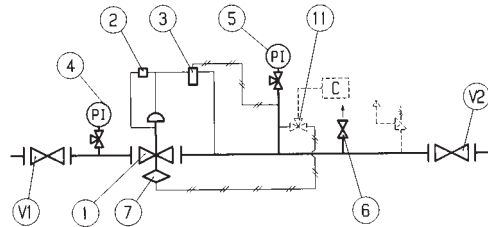

Fig. 22
5.4 MESSA IN SERVIZIO REGOLATORE APERFLUX 851 CON VALVOLA DI BLOCCO SB/82 INCORPORATA (FIG.22)
5.4 COMMISSIONING THE REGULATOR APERFLUX 851 WITH INCORPORATED SB/82 SLAM-SHUT (FIG. 22)
5.4 INBETRIEB. DES REGLERS APERFLUX 851 MIT SICHERHEITSABSPERR-INTEGR.SPERR-VENTIL SB/82 (FIG. 22)
5.4 MISE EN SERVICE DU DÉTENDEUR APERFLUX 851 AVEC VANNE DE SÉCURITÉ SB/82 INCORPORÉE (FIG. 22)
5.4 PUESTA EN SERVICIO DEL REGULADOR APERFLUX 851 CON VÁLVULA DE BLOQUEO SB/82 INCORPORADA (FIG. 22)
5.4 ATIVAÇÃO COM REGULADOR APERFLUX 851 E VÁLVULA SEGURANÇA INCORPORADA SB/82 (FIG. 22)